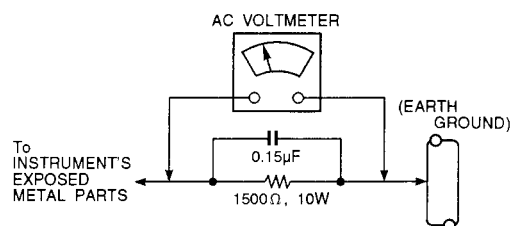

Fig.1
- 5-2 Connect a 1500 ohm, 10 watt resistor, paralleled by a 0.15 $\mu$ F capacitor between each exposed metallic part and a good earth ground (as shown in Fig. 1).